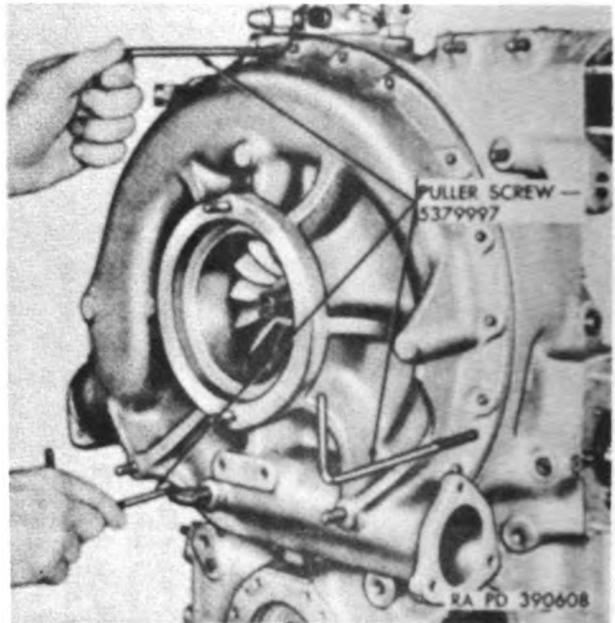

Figure 104. Removing supercharger housing assembly.
a. Remove 19 hex self-locking nuts (S), or hex stamped nuts (T) and hex nuts (S), and flat washers (R) securing supercharger housing assembly (E) to accessory case. Two nuts are on accessory case side of housing.
b. Remove supercharger housing assembly (E) from accessory case using three puller screws 5379997 (fig. 104). Remove and discard "O" ring packing (F). Figure 105 shows front